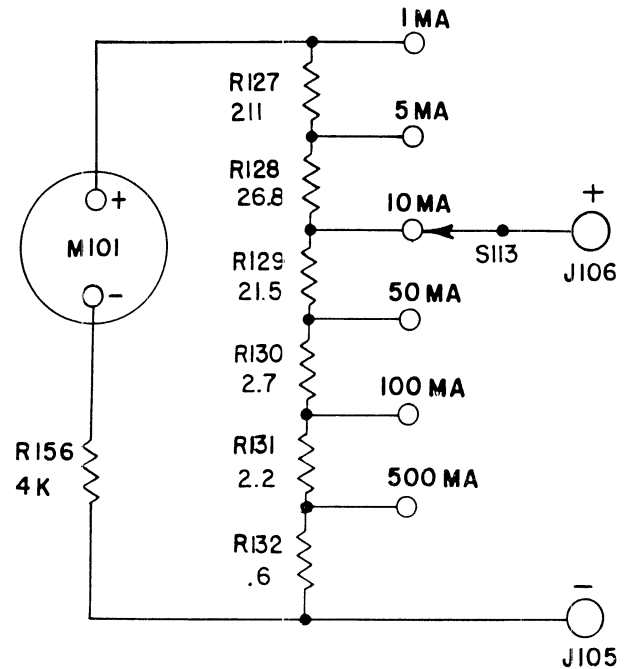
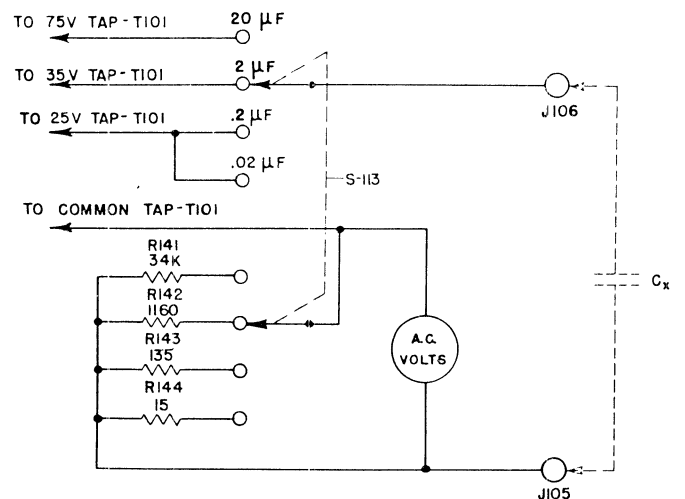

Figure 2-14. Simplified Milliammeter Circuit
Figure 2-15. Simplified Capacity Meter Circuit
d. MILLIAMPERES (See Figure 2-14)
- (1) When the FUNCTION selector switch is turned to the MILS position the basic circuit illustrated by Figure 2-14 is set up. Meter M-101 in series with resistor R-156 is paralleled by the series of calibrated resistors R-127 through R-132.
- (2) Adjustment of the RANGE selector switch applies the current to be measured to the proper tap on the series of resistors.
e. CAPACITY (See Figure 2-15)
- (1) With the FUNCTION selector set at CAP. the test circuit illustrated by Figure 2-15 is established.
- (2) Adjustment of the RANGE switch S-113 permits selection of the four ranges of capacity.
- (3) A standard ac voltage, determined by the setting of RANGE switch S-113, is applied across the unknown capacity C_x through one of four accurately calibrated resistors R-141, R-142, R-143 or R-144, also selected by the setting of S-113.
- (4) The voltage drop across the series resistor, R-141, R-142, R-143 or R-144, is proportional to the reactance of the capacitor under test and is measured by the meter in terms of capacity in microfarads based on a line frequency of 60 cycles.